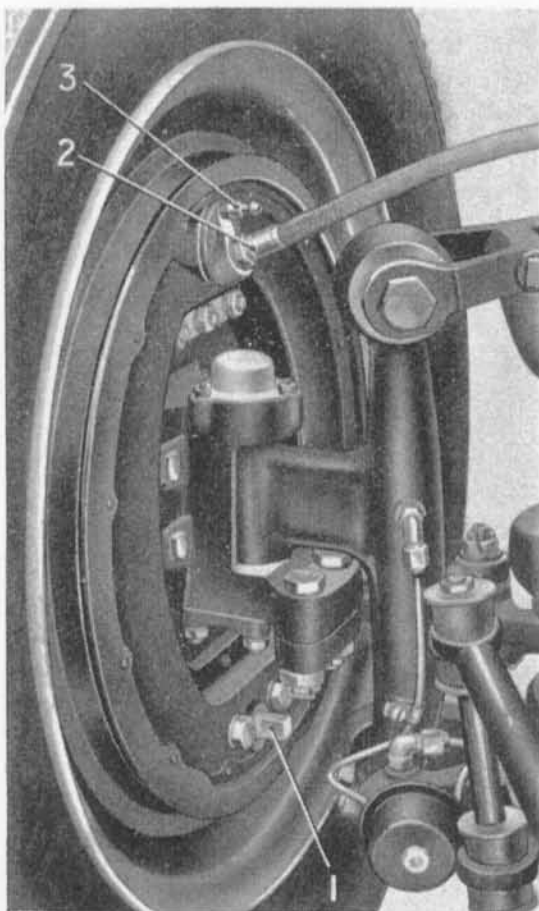
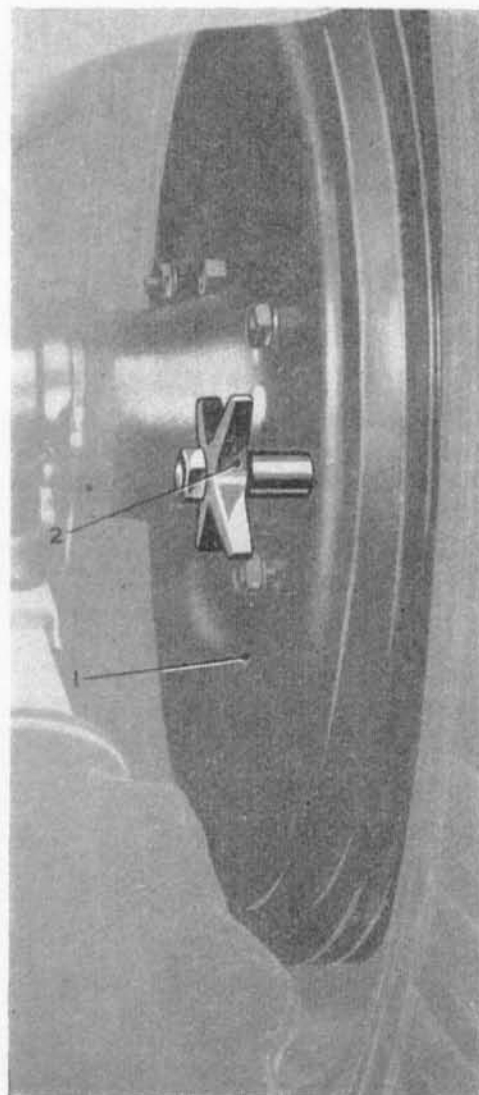
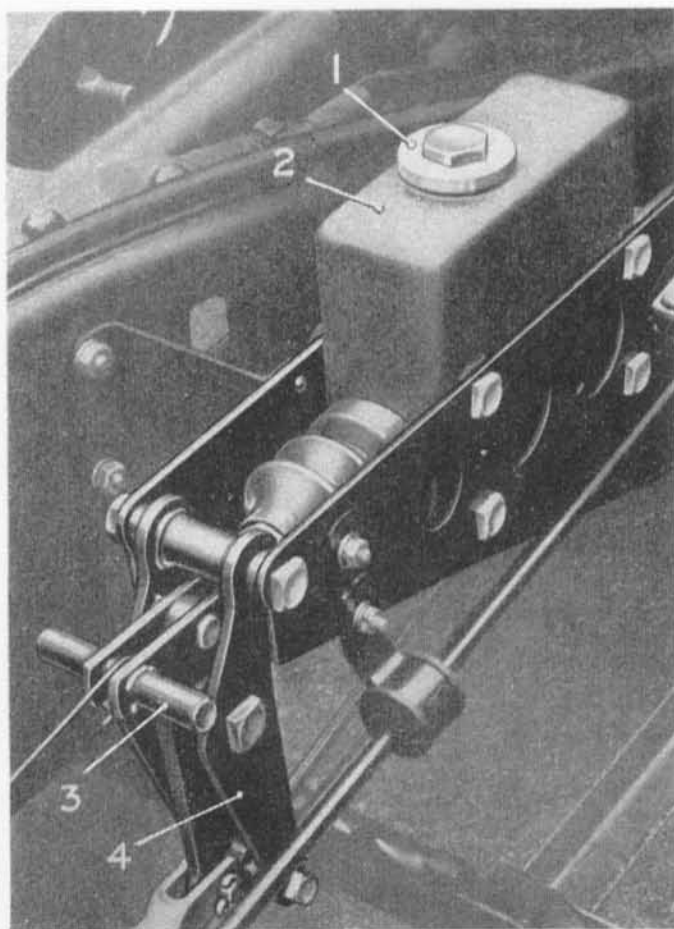

Fig. 18.—FRONT BRAKE ADJUSTMENT.
Fig. 19.—REAR BRAKE ADJUSTMENT.
Fig. 20.—THE HYDRAULIC MASTER CYLINDER AND RESERVOIR.
The method of adjustment is the same for both front and rear brakes, with the exception that a hand wheel is provided on the rear brake adjusters, while a  $\frac{1}{4}$ " B.S.F. open-ended spanner must be used on the squared end of the front brake adjusters. The rear adjusters (2, Fig. 19) are located forward of the axle tubes, and the front adjusters (1, Fig. 18) directly below the steering pivot pins.
1. Attach a clean rubber drain tube to one front brake bleeder screw (3, Fig. 18), and immerse the other end in a clean glass jar in which there is sufficient hydraulic brake fluid to submerge the end of the tube.
2. Release the bleeder screw (3) half to one turn.
3. Remove the filler plug (1, Fig. 20) and fill the reservoir integral with the master cylinder, with the recommended fluid. (See page 28.)
4. Push the joint forward until the extended pin (3) abuts against the master cylinder support brackets (4).